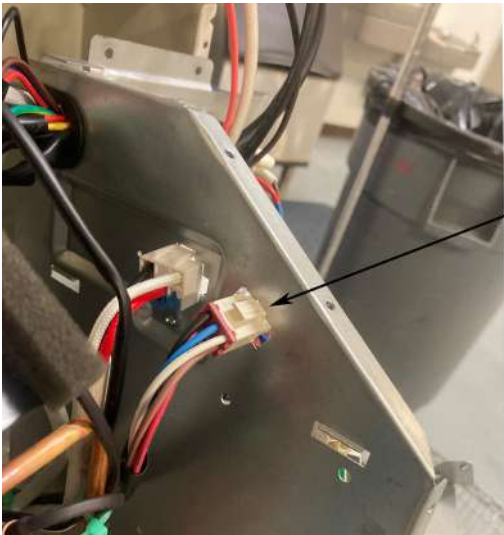

**Figure 517**
7. Loosen blower wheel set screw through slot as shown, and slide blower wheel out. See Figure 517.